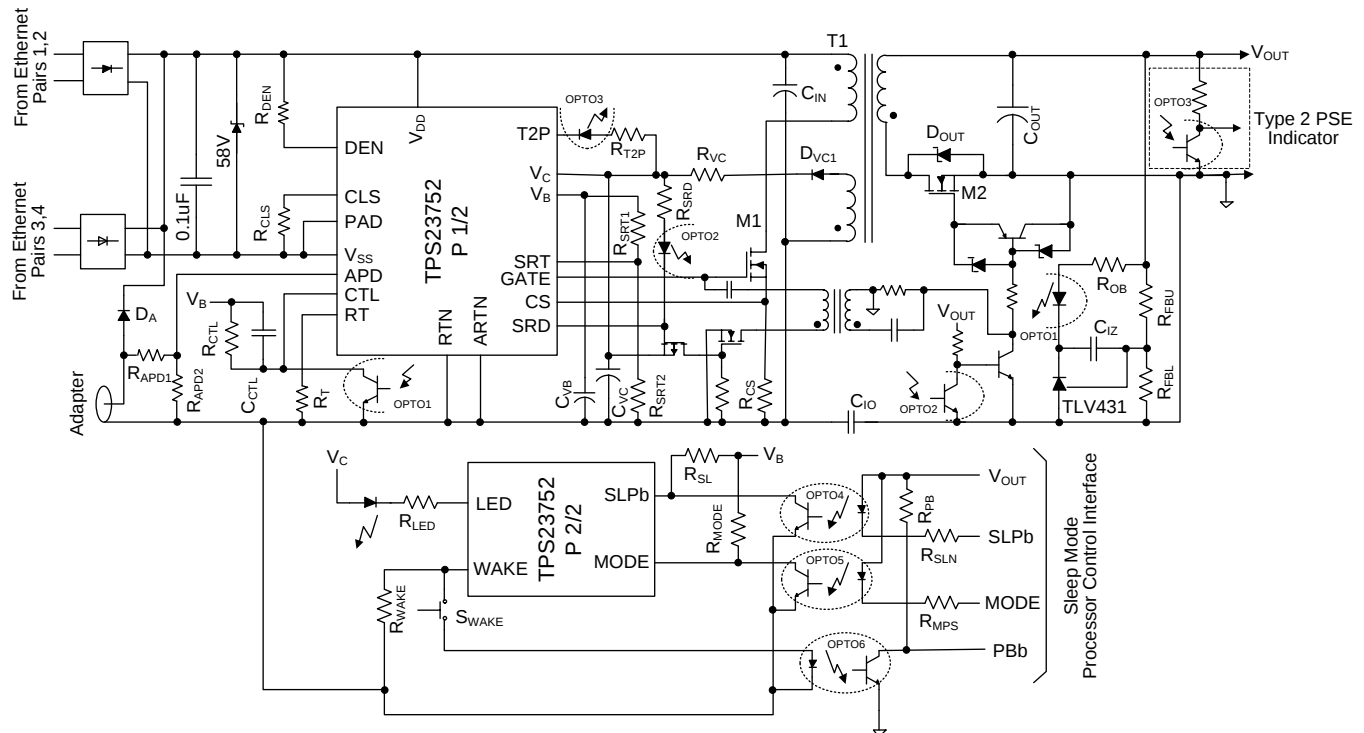

Figure 32. TPS23752 Application Circuit
The Sleep Mode is initiated by command of a local device controller (microprocessor) when the SLPb input is driven low. Sleep Mode is latched by this event, the converter is disabled, V_{DD} regulates V_C to 12.8 V, and the LED output is active. The LED output sinks current to light an LED biased from the V_C pin with R_{LED} as shown in Figure 32. LED can alert a local user that Sleep Mode is active. The TPS23752 signals the PSE that it wants to remain powered during sleep by drawing enough current to satisfy the IEEE 802.3at DC MPS requirements. If MODE was low when SLPb fell, a pulsed V_{DD} current-draw scheme is implemented; otherwise a DC current is drawn. The input current consists of the TPS23752 bias currents and the LED sink current, assuming no additional loading on V_C or V_B . The MPS current draw is inhibited when APD is active. A local pushbutton switch
(S_{WAKE} in Figure 32) is monitored by the WAKE pin and the latched sleep state exits when the button is pressed. The button is connected to ARTN through an optocoupler LED (OPTO6 in Figure 32) that alerts the device controller the button was pushed during normal operation. The MODE pin also has a second function, serving to activate the LED output when driven low during normal converter operation. For more information regarding the TPS23752 Sleep Mode Feature, see *TPS23752 Maintain Power Signature Operation In Sleep Mode* (SLVA588).
The term with V_{CTL} prevents an optocoupler connected to the secondary-side from loading V_C before the converter is started. The APD term allows the PD to operate from an adapter at high-power if a type 2 PSE is not present, assuming the adapter has sufficient capacity. Applications must monitor the state of T2P to detect power source transitions. Transitions could occur when a local power supply is added or dropped or when a PSE is enabled on the far end. The PD may be required to adjust the load appropriately. The usage of T2P is demonstrated in Figure 32.
The TPS23751 and TPS23752 support power supply topologies that require a single PWM gate drive with current-mode control. Figure 32 provides an example of a synchronous rectifier flyback converter.
A TVS, D_1 , across the rectified PoE voltage per Figure 32 must be used. A SMAJ58A, or equivalent, is recommended for general indoor applications. Adequate capacitive filtering or a TVS must limit input transient voltage to within the absolute maximum ratings. Outdoor transient levels or special applications require additional protection.
The TPS23751 and TPS23752 internally compares modified voltages at the SRT and CTL pins to determine the operating mode. The designer should consider the light load operating point (considering the value of V_{CTL}) where synchronous rectifier (M2 in Figure 32) gate drive and switching losses nearly match conduction losses of the rectifier diode (D_{OUT} in Figure 32). Typically, the designer characterizes circuit efficiency, output load, and control pin (V_{CTL}) voltage and then select the transition point. Both VFO $\rightarrow$ PWM (occurs at higher load current due to natural hysteresis) and PWM $\rightarrow$ VFO (occurs at slightly lower load current) transitions should be considered when choosing the V_{SRT} setpoint. As an example:
- Set V_{SRT} using a voltage divider from V_B to ARTN as shown in Figure 32.
The converter switching frequency in PWM mode is set by connecting resistor, R_T from the RT pin to ARTN (see Figure 32). The frequency may be set as high as 1 MHz with some loss in programming accuracy as well as converter efficiency. As an example: